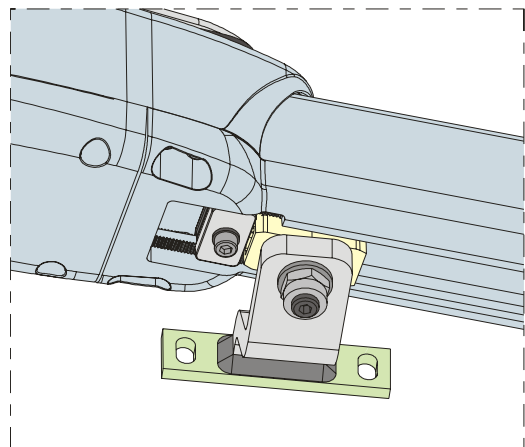

Fig. 18
- 4) Move the stop near the fitting as shown in Fig.18.